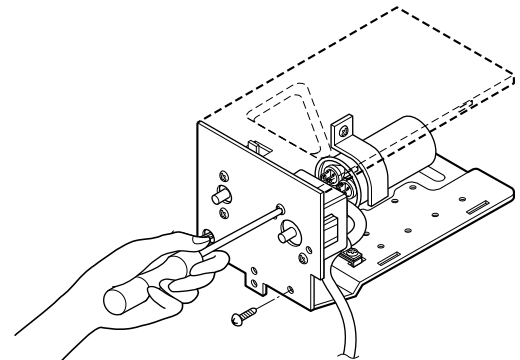

Figure 12
6. Re-install the components by referring to the above removal procedure. (See Figure 12)